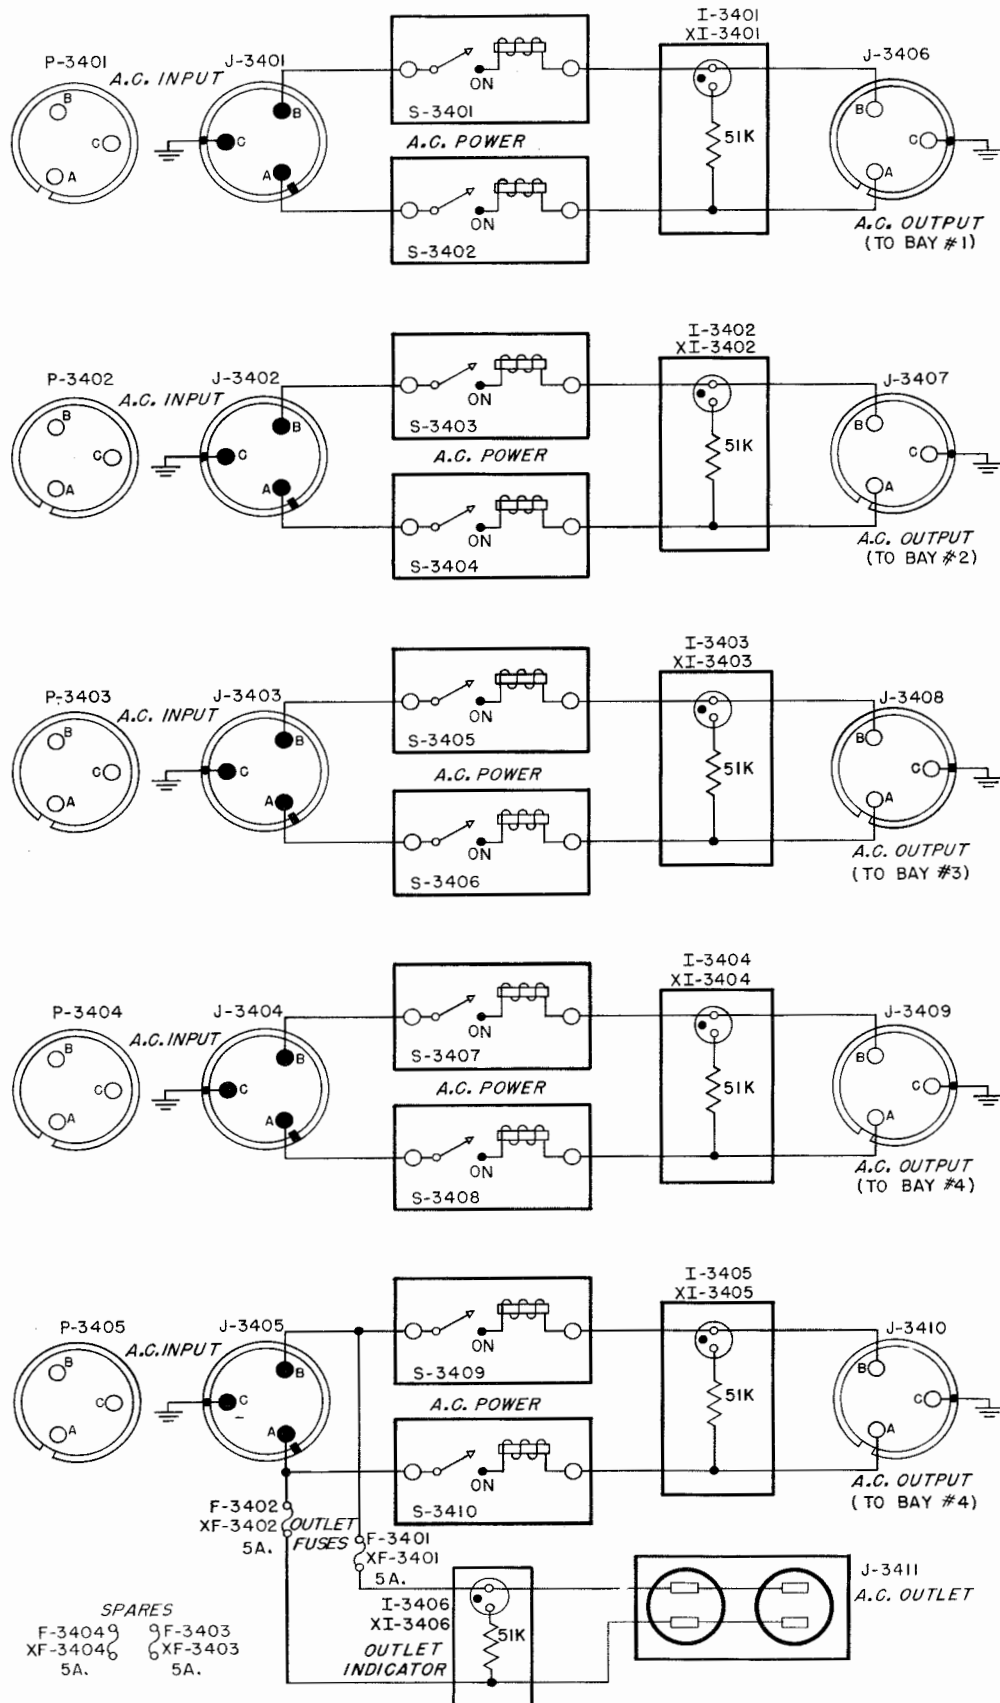

Figure 2-68. Power Distribution Panel SB-141/FRR-24, Schematic Diagram
q. POWER DISTRIBUTION PANEL. (See Figure 2-68).—The Power Distribution Panel SB-141/FRR-24 is located in bay 3. A.C. power is distributed to the five power supplies through this unit. Separate switches with built-in circuit breakers are provided to connect A.C. into each power supply. A neon lamp is connected at each input to indicate the application of A.C. voltage to the selected power supply.
(1) CIRCUIT ANALYSIS.—The A.C. input to the power distribution panel is connected through five